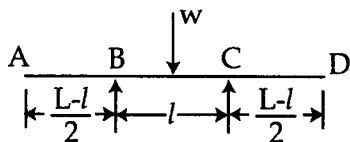

Fig. 5
8. A uniform beam of length L is simply and symmetrically supported on a span ' l ' as shown in fig. 5. Find the ratio L/l so that the upward deflection at each end equals the downward deflection at mid span, due to a central point load ' w '. 14